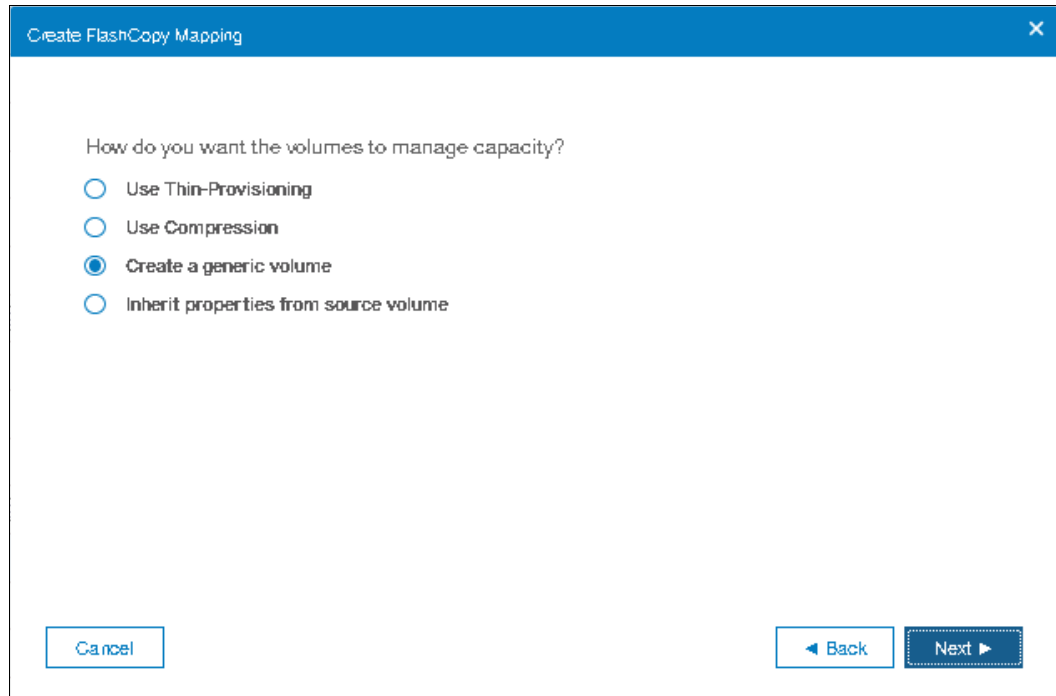

Figure 10-27 FlashCopy target volume capacity management options
6. The next window will show capacity management options about the new target volume as shown in Figure 10-27 on page 491.